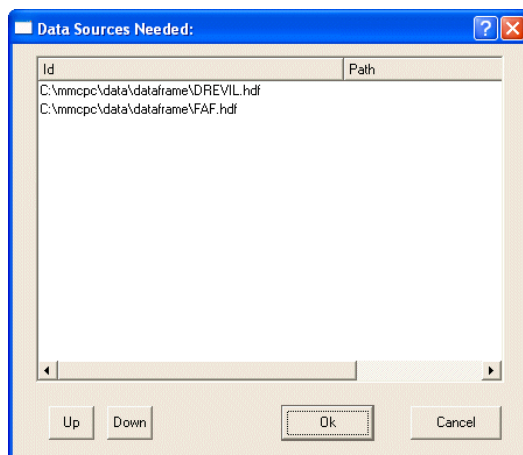

Fig. 62 — Build map data frame sources window
4. If data frames are associated with the composition, another window will be displayed showing the list of data frames (Fig. 62). As noted above, the order of precedence may be changed via the Up and